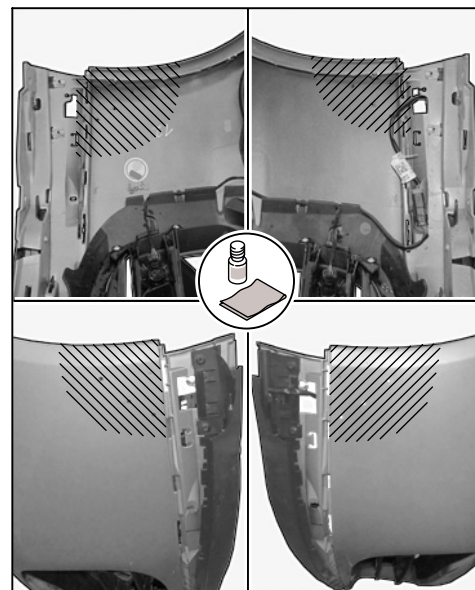

Figure 5
- 2.3.1 Clean the front apron at the left and right in the marked area (inside/outside) with isopropanol (⇒ *Figure 5*).